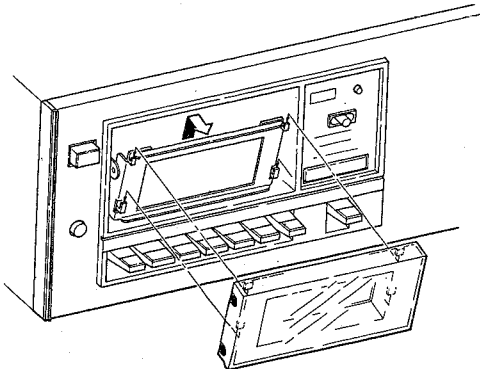

Fig. 4-1 Cassette Cover Removal
1. Remove the Top Cover by removing eight screws (A).
2. Depress the EJECT Key and grasp the Cassette Cover with both hands and lift up to remove, referring to Fig. 4-1.
5. Remove the Front Panel by removing six screws (B).
6. Remove the Bottom Cover by removing screws (D).
**NOTE:** 1. When disassembling the Meter Cover from the Front Panel Ass'y, a special tool (crab-eye driver) is required to remove the crab-eye screws (C). Refer to paragraph 1 TEST EQUIPMENT REQUIRED on page 3.